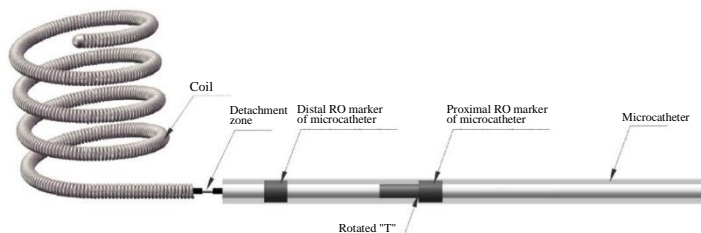

Figure 6. RO marker on the delivery wire is flush with the distal edge of the proximal microcatheter RO marker
- Continue to advance the delivery wire until the proximal edge of RO marker on the delivery wire is flush with the distal edge of the proximal RO marker on the microcatheter forming a shape of "rotated T" (Figure 6). Tighten the RHV under the microcatheter again to ensure that the delivery wire will not move easily.